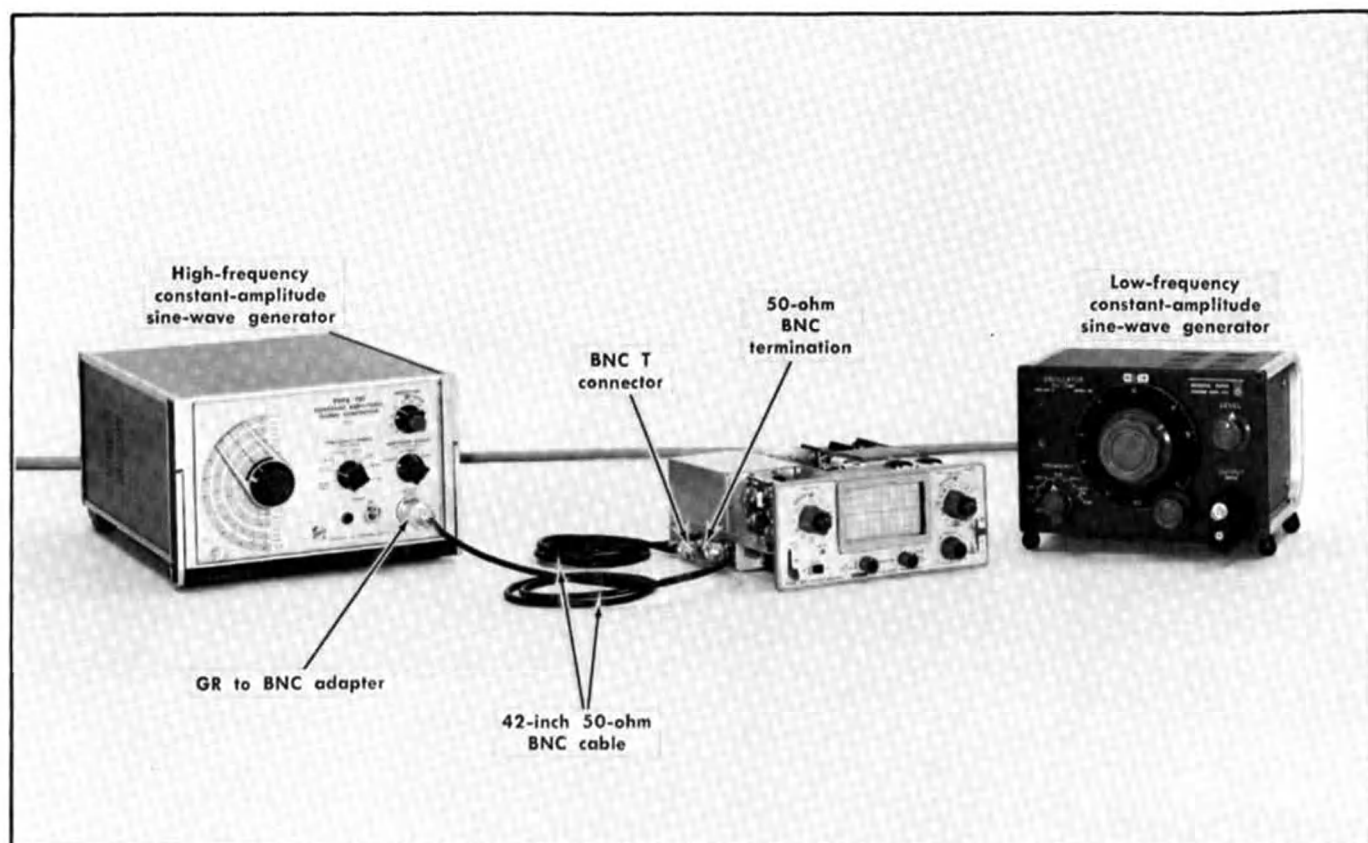

Fig. 6-21. Initial test equipment setup for steps 46 through 54.
a. Test equipment setup is shown in Fig. 6-21.